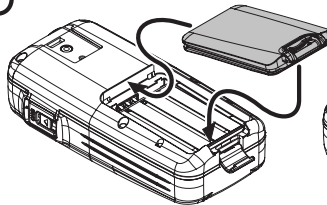
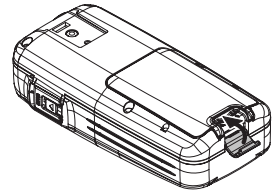

FIGURE 3
FIGURE 4
- ❑ Re-install the Battery Cover (Figure 3), then close the Battery Cover Latch until it locks in place with a “Click” (Figure 4).